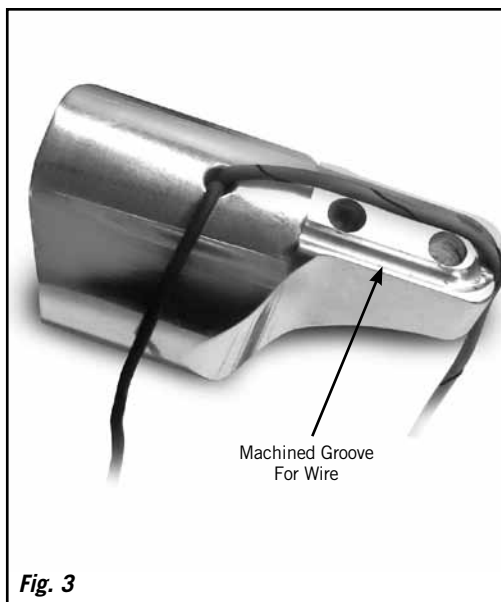

Fig. 3
Step 3: When mounting the taillight assembly, run the two wires in the machined grooves on the mounting surface of the taillight housing. This will prevent the wires from being pinched when tightening the fasteners. **Fig. 3** Install the taillight onto the Lokar Dial-In Board or your desired location using the two supplied #10-24 x 3/8" socket head cap screws.